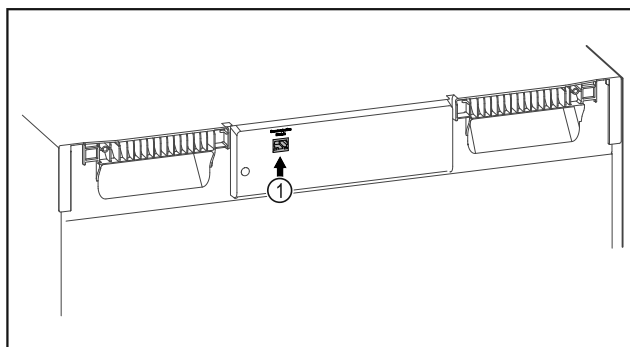

Fig. 110
- ☐ SmartModule Fig. 110 (1) is in use.